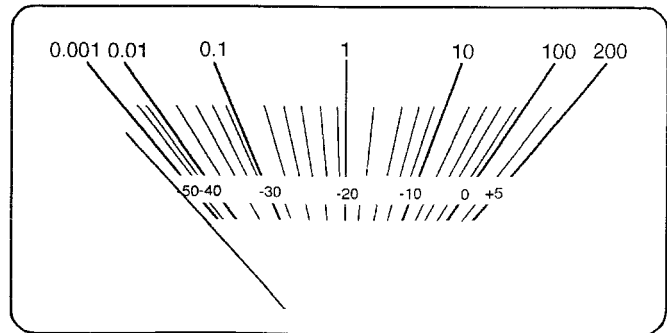

Fig. 3
3. Turn the power **ON**, make sure that the power meter is mechanically adjusted to **0** point (shown in Fig. 3).